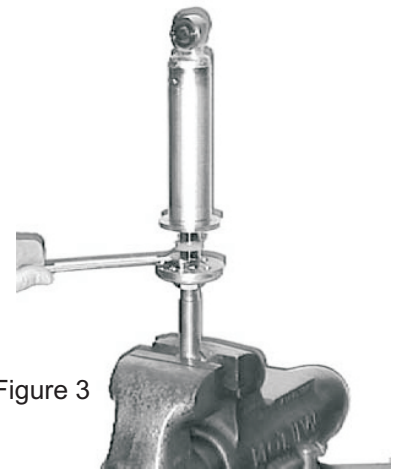

Figure 3
- Clamp the damper in a vise with soft jaws across the flat sides of the long eye mount (see figure 3). Loosen the spring plate lock nut with a wrench and spin it a few turns for clearance (see figure 3). Loosen the spring plate a few turns in the same direction. Unscrew the damper shaft from the long eye mount with a wrench. The long eye mount is assembled with a thread-locking agent (loctite) so it may need to be heated with a heat gun before removing.